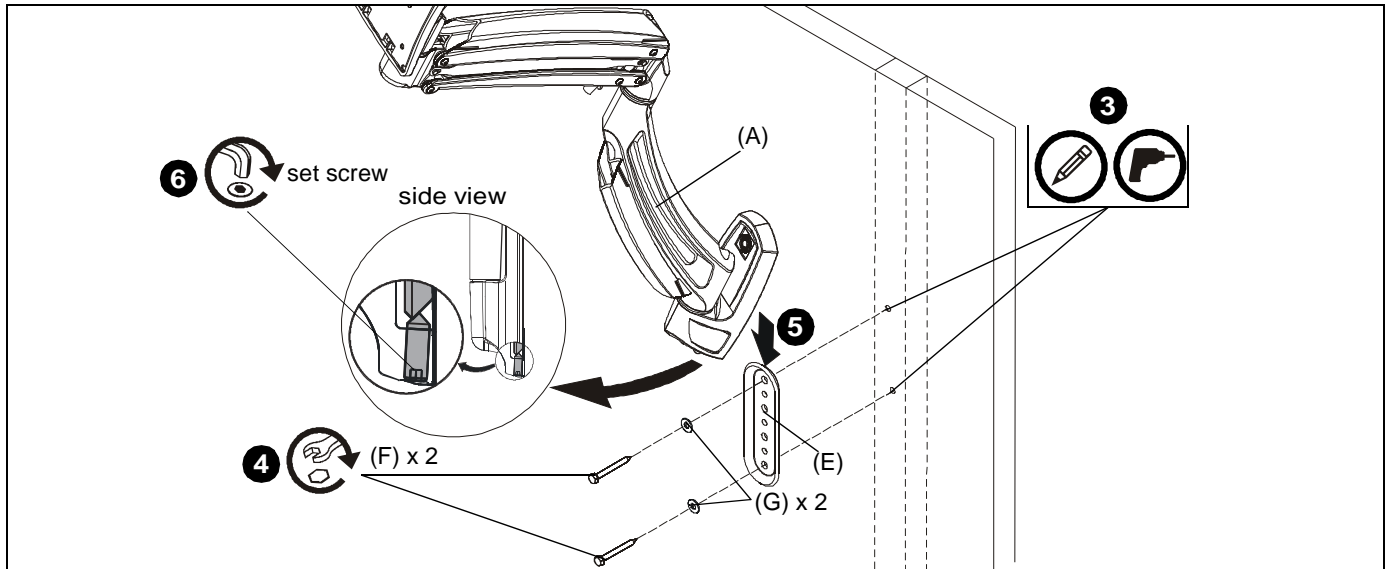

Figure 1
3. Use wall bracket (E) to mark and drill two 1/8" x 2 1/2" holes in wall at desired mounting location. (See Figure 1)
**IMPORTANT !** : Only top and bottom holes of wall bracket (E) must be used to attach bracket to wall as shown in Figure 1. Do NOT use any other holes to secure bracket to wall!
4. Use two 1/4-2 1/2" hex head lag screws (F) and two 1/4" washers (G) to install wall bracket (E) onto wall. (See Figure 1)
**IMPORTANT !** : Over tightening screws (F) may cause bracket to compress into soft wall surface resulting in difficult mount installation or improper engaging of set screw in Step 6.
5. Hang monitor arm (A) over wall bracket (E). (See Figure 1)
6. Secure monitor arm to wall bracket (E) by tightening set screw. Ensure set screw engages back side of wall bracket (E) to properly secure mount. (See Figure 1)